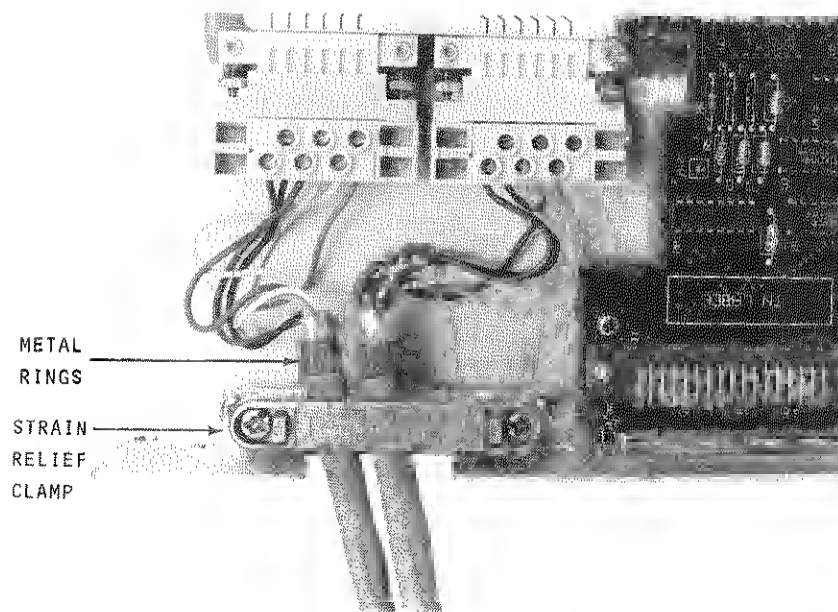

Figure 16. Analog Extender Cable Strain Relief.
- f. The screws on top of connectors J1 and J2 are shipped in the counter clockwise position so wires can be inserted and clamped by tightening the screws. Verify this with a small, flatbladed screwdriver. Figure 16 shows the screw heads in a top view of connectors J1 and J2. Wires from analog extender cables are shown installed. Install the extender cable wires on connectors J1 and J2 by tightening the screws on the inserted wires: brown to CH, black to GU, orange/white pair to one HI/LO bus, and the blue/yellow pair to the other HI/LO bus.
- h. Orient the cables in the strain relief as shown in Figure 16 and install the clamp snugly, but not overly tight. Note that the metal ring on the cable assembly is not under the clamp.